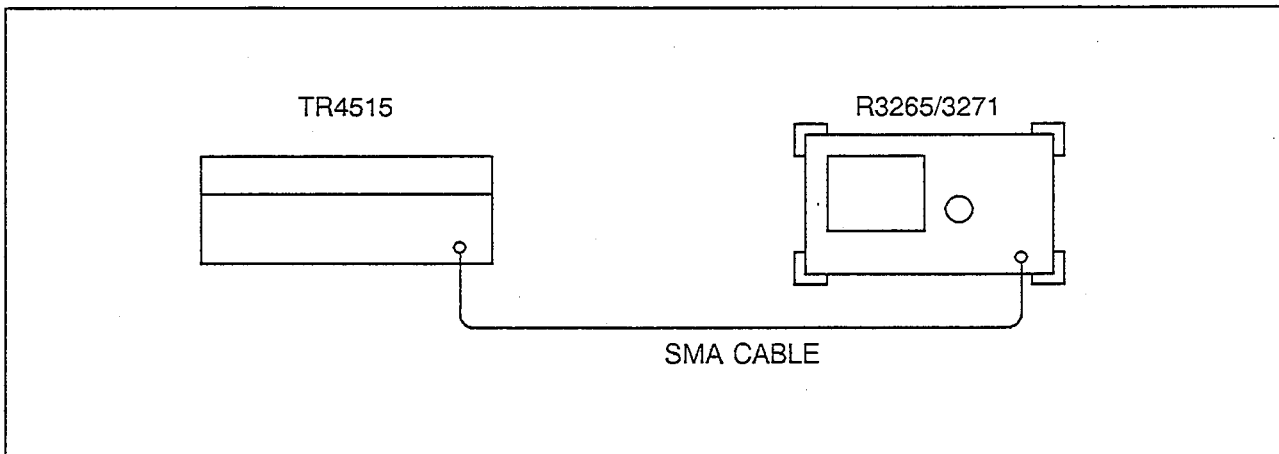

Figure 5-10 YTO Adjustment Setup
- (1) Connect the equipment as illustrated in Figure 5-10.
- (2) Press the INSTR PRESET key on the TR4515 and set the controls as follows: